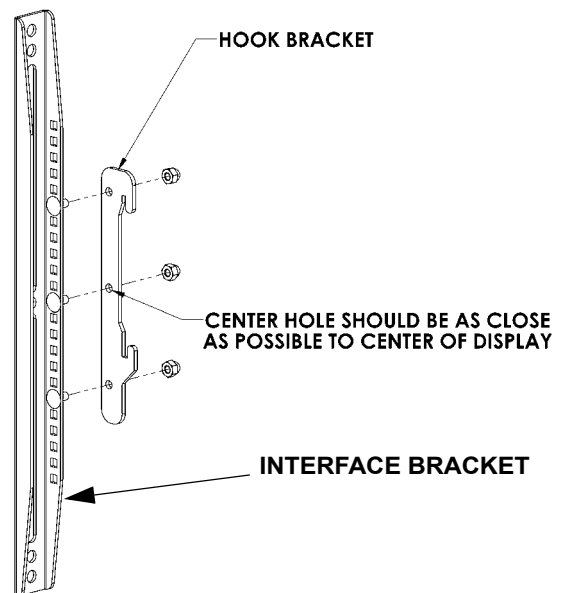

Figure 9. Install Hook Brackets
2. Install the two hook brackets (240) on each interface brackets as shown in Figure 9. Make sure to align the center hole of the hook brackets as close to the center hole in the interface brackets (see Figure 9).